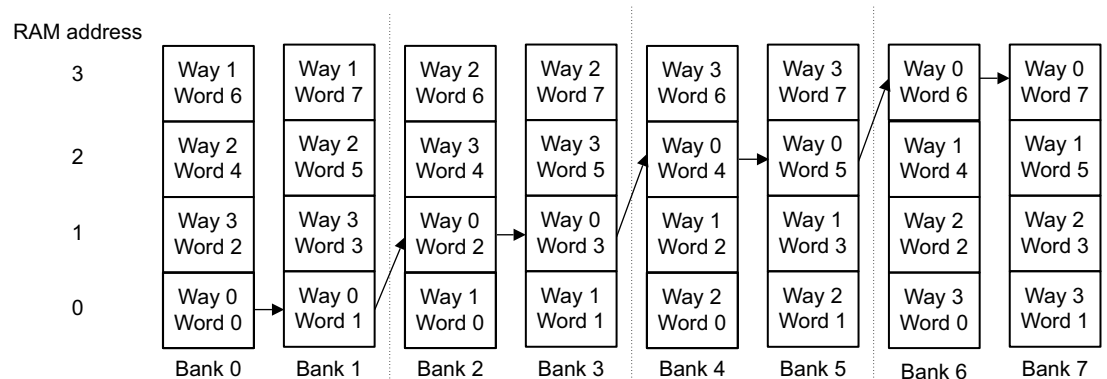

Figure 6-2 Sequential read operation performed with one RAM access
- Select the appropriate bank RAM for sequential read operations, as shown in Figure 6-2.
Figure 6-2 shows the appropriate bank RAM being selected for a sequential read operation.